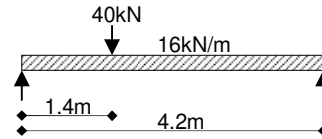

Fig. 4
5. A universal beam is loaded as shown in figure 4. Select a suitable UB section in grade S275 steel and check for bending and shear. Ignore the self-weight of the UB. Check for bending, shear and bearing. Take bearing width as 150mm. (20 marks)